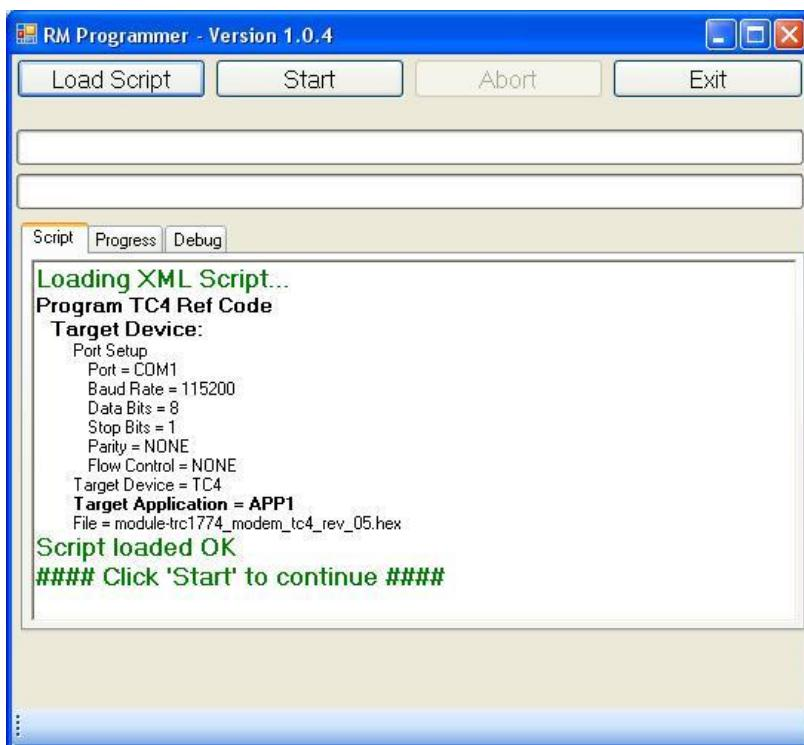

Figure 37: RM Programmer with loaded Application script
- 4) The RM Programmer will load the XML file and display the connection settings of the loaded XML file as shown in Figure 37